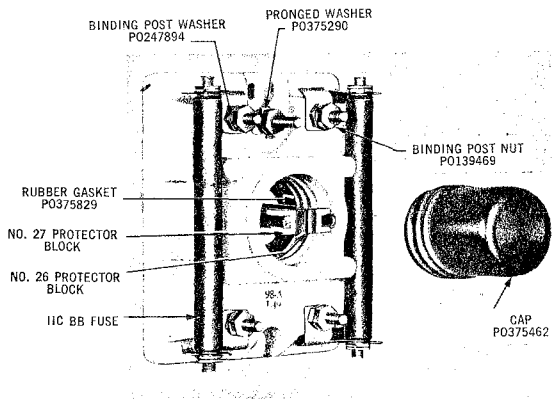

Fig. 2 — 98A Protector
2.02 98A Fused Protector (Fig. 2) consists essentially of a base of insulating material equipped with two No. 11CBB fuses and two each No. 26 and 27 protector blocks. The 98A Fused Protector is used only when conditions described in Paras. 7.02, 7.03 and 7.06 cannot be met.